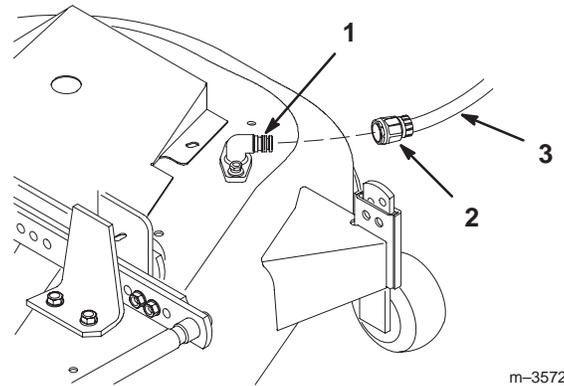

Figure 37
5. Attach a hose coupling to the end of the washout fitting and turn water on high (Fig. 37).